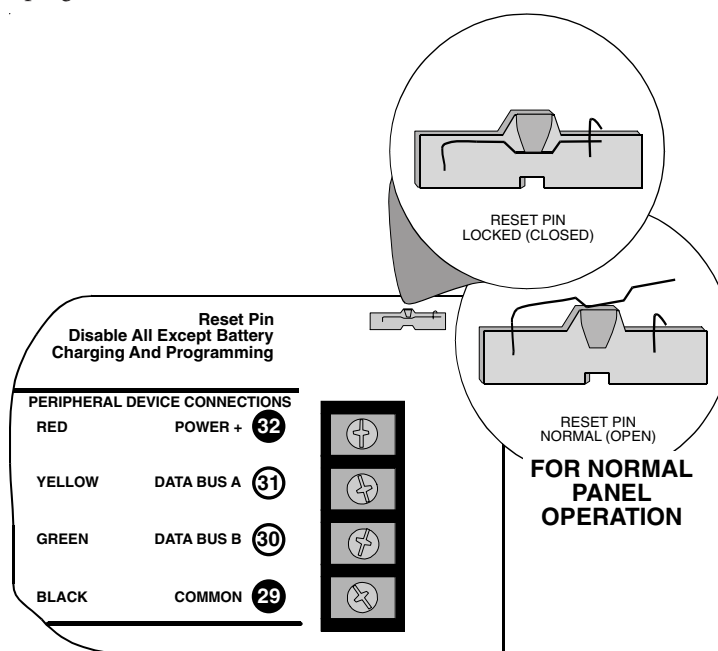

Figure 19: Reset Pin
1. **Lock Reset Pin:** See *Figure 19*.